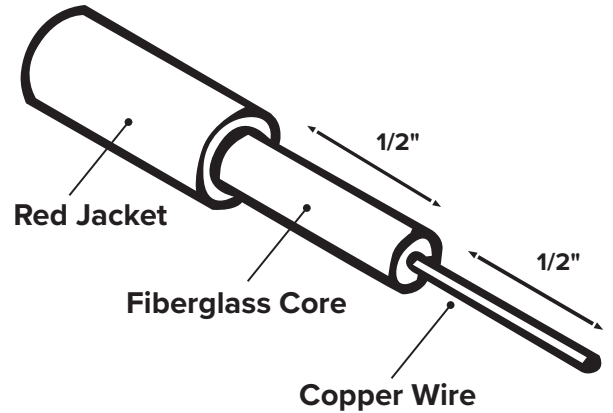

Fig. 1
2. Set drag brake to highest amount of drag (Fig. 1).
2. Once jacket is removed, use pipe cutter again to score a mark around fiberglass core approximately 1" from edge of jacket. Use sharp knife to carefully strip away 1" of fiberglass core closest to rod end to expose copper wire. Be careful not to damage wire. The 1" portion of rod closest to jacket will remain intact (Fig.1).